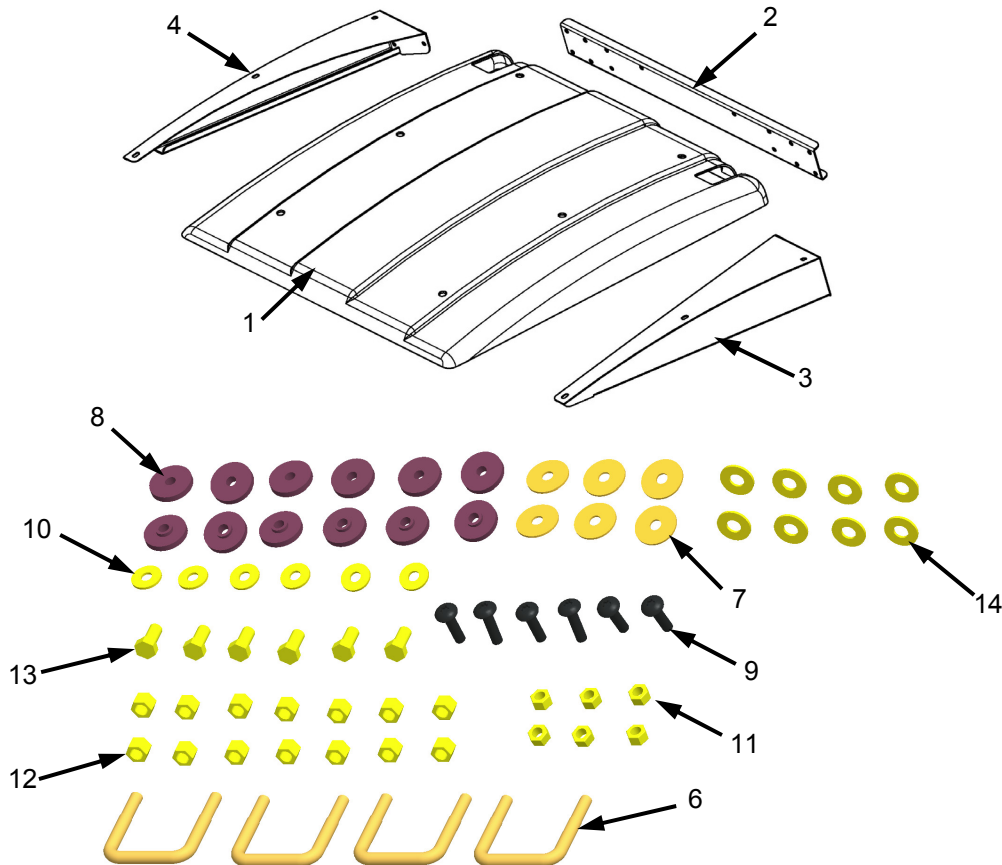

Figure 1
1. Remove contents from box and identify components (**Figure 1**).